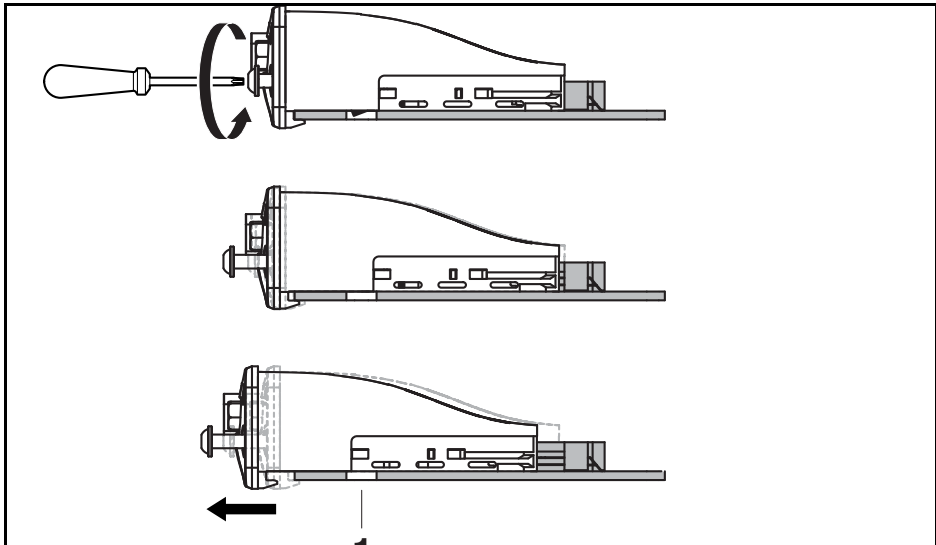

Fig. 4: Loosen the arresting mechanism.
2. Loosen torx screws at the front. Do not pull out the IMecat interface module until the arresting mechanism is completely loosened (see fig. 4).